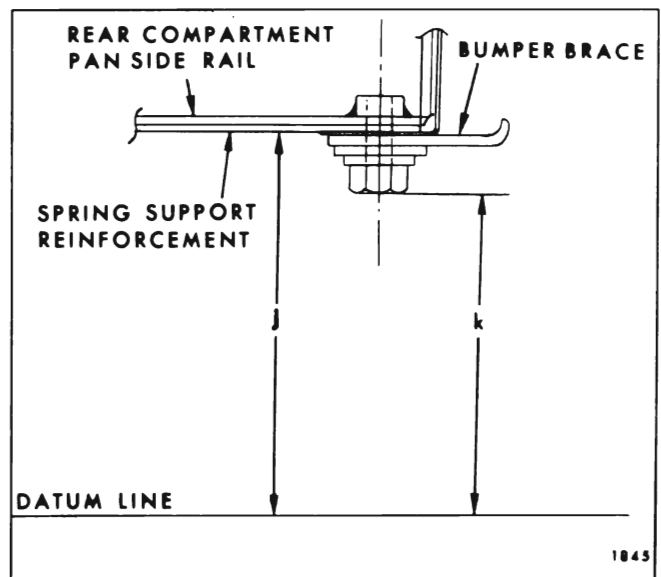

Fig. 3-13—Rear Bumper Attaching Bolt
- j 13-7/8 (Sedan & Coupe) Lower surface of compartment pan side rail spring support reinforcement at rear bumper attaching bolt hole (See Fig. 3-13).
- k 13-11/32 (Sedan & Coupe) Center of lower surface of rear bumper attaching bolt head (See Fig. 3-13).